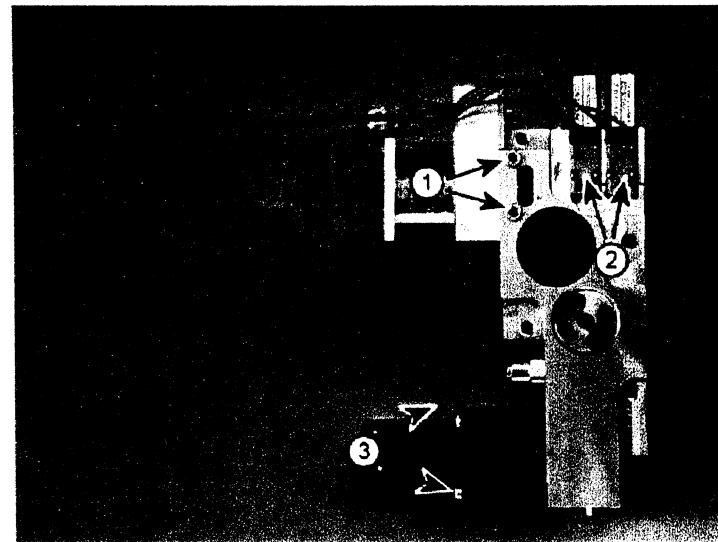

Fig. 10 Valves on the connector block
12. Remove the fixing screws of the PEEP valve Fig. 10/1, of valves V7 and V8 Fig. 10/2 and of the pressure reducer Fig. 10/3 and remove the components (including O-rings) from the connector block.